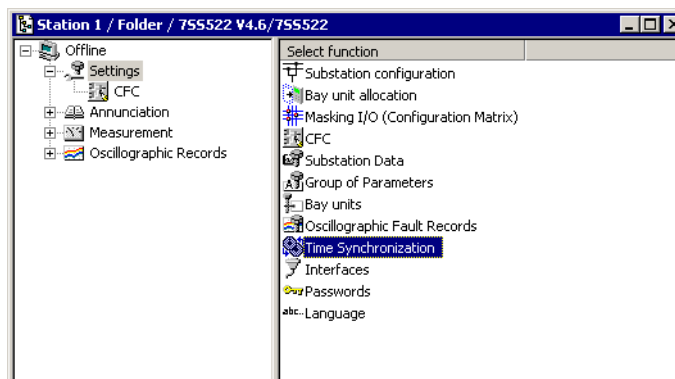

Figure 6-27 Selecting the time synchronization function
- ❑ If you want to change the time offset or the tolerance time of the clock signal in the event of a fault, click **Settings** (Figure 6-27, page 242). The setting groups are shown in the function selection.